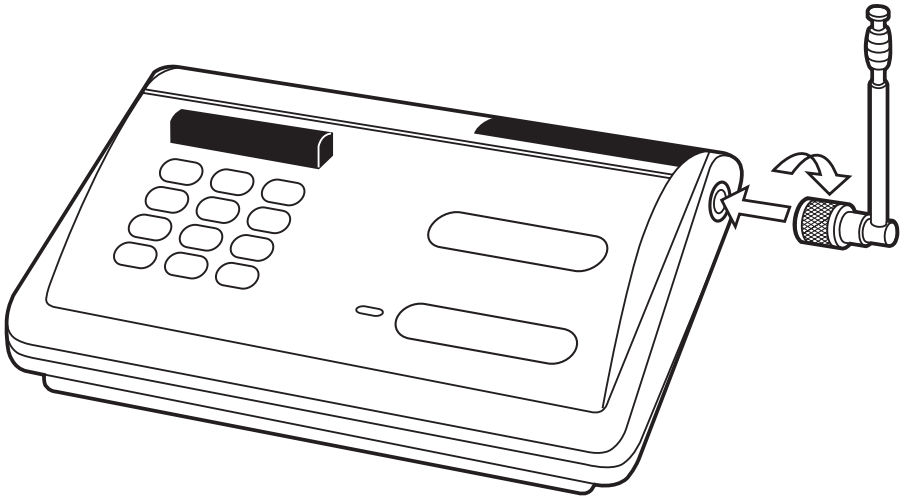

Figure 4-2. Connecting the antenna to the Campus Pager.
2. Insert the center-loaded antenna connector into the antenna jack on the right side of the Campus Pager. Turn the connector clockwise until the antenna locks in place. For maximum efficiency, extend the antenna to its full length, orient it vertically, and keep it away from walls. See **Figure 4-2**.